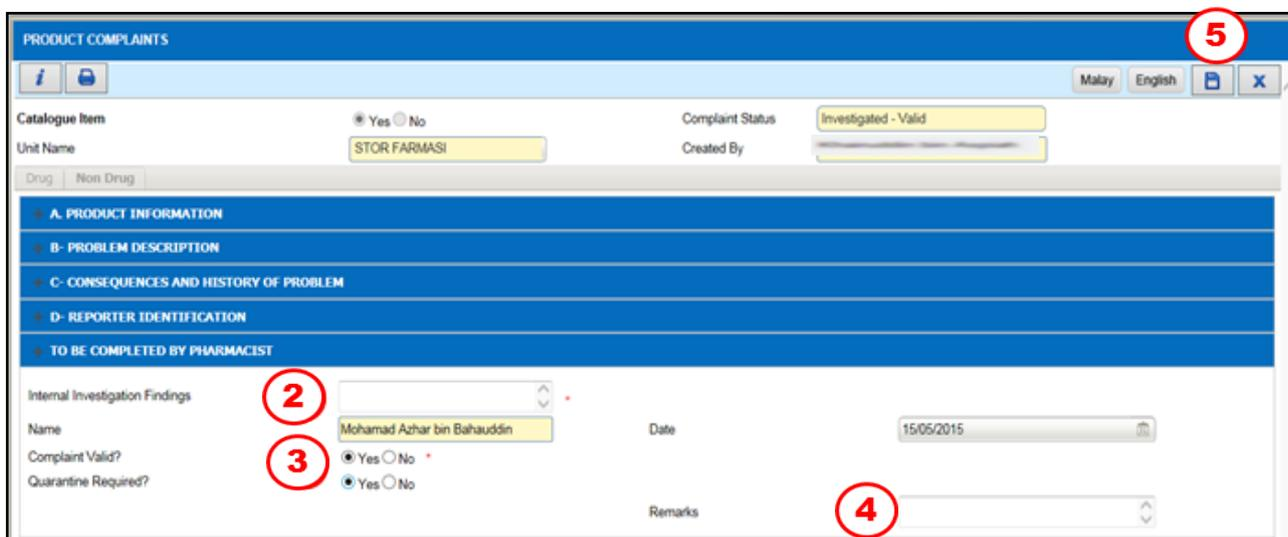

Figure 3.2.4-3 Investigation – Valid Product Complaints record
- These five (5) panels can be maximized / minimized by clicking on its Header in the Investigation - Pending Product Complaints form:
- *DIS pharmacist needs to fill in the 'To Be Completed by Pharmacist' section as shown in Figure 3.2.4-3.*